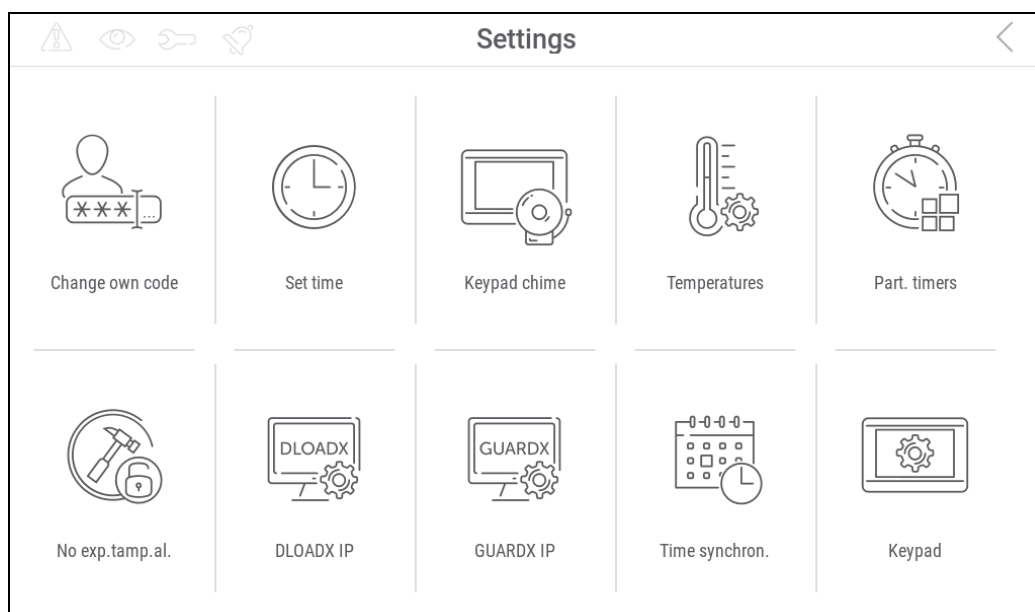

Fig. 25. “Settings” screen (example).
5. Tap the “Settings” function. The “Settings” screen will be displayed (Fig. 25).